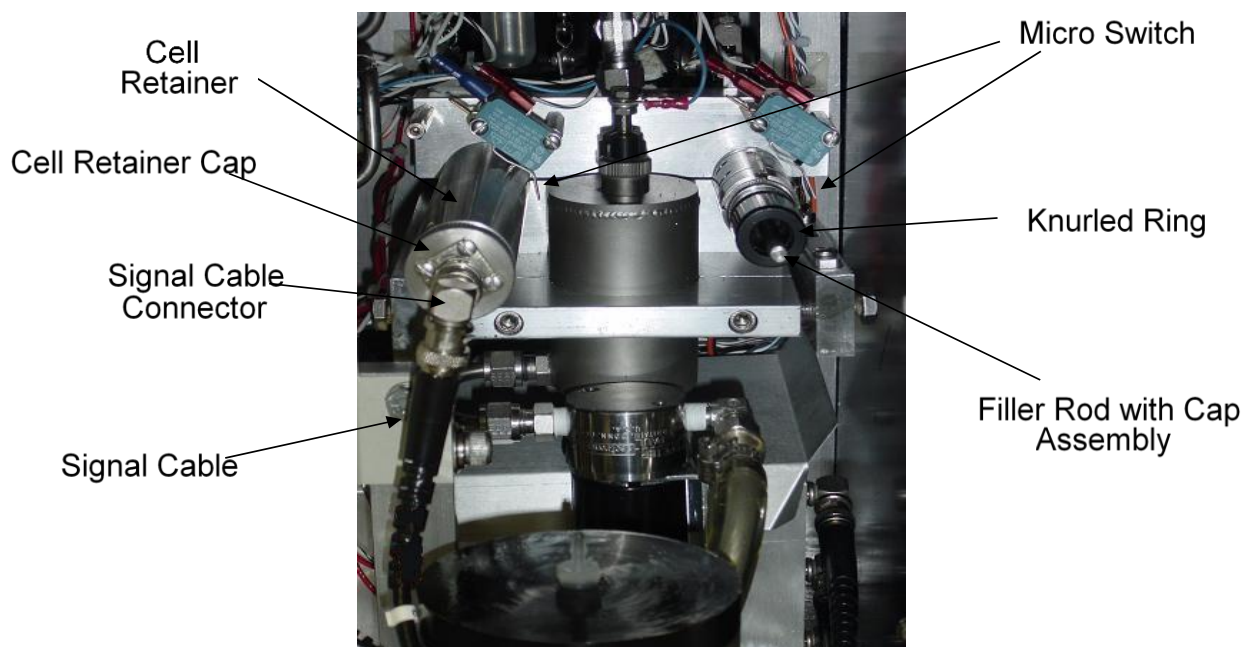

Figure 8. Detailed image of low pressure station
- A detailed image of the low pressure station is shown in Figure 8.